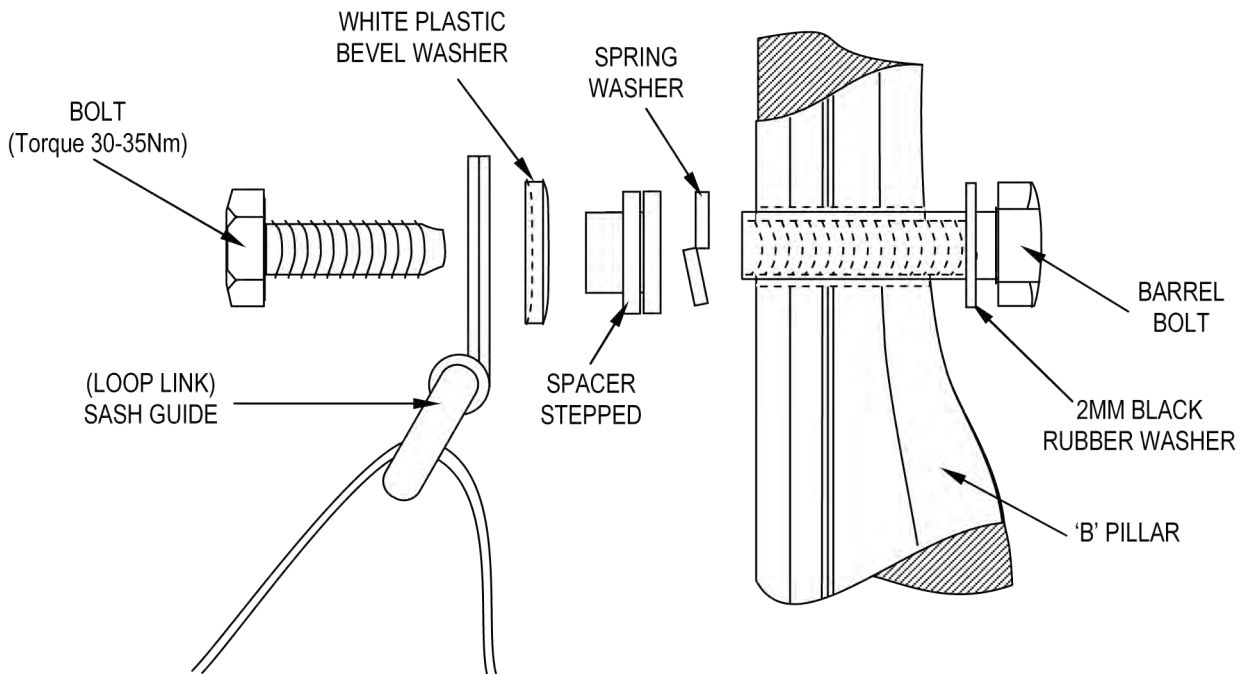

FIGURE 2
- Attach the Barrel bolt to the 'B' Pillar as shown in Fig. 2 using the 7/16Unf bolt.